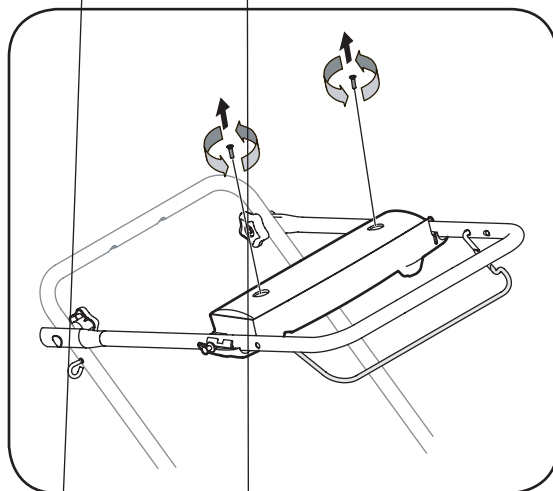

Figure 5-6
1. Loosen round handle knobs securing upper and lower handles and carefully fold the upper handle down toward the lower handle as shown in Figure 5-6.
2. Remove the two screws securing battery cover to battery housing and place them to the side. See Figure 5-6.
1. Open the battery cover as described in **Replacing Battery**. See Figure 5-6.